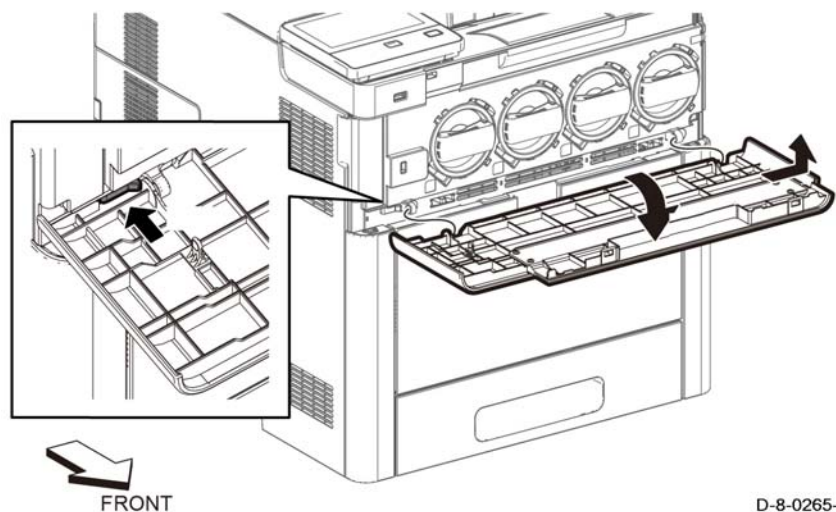

Figure 1 Toner cover assembly removal
1. Open the toner cover, Figure 1.